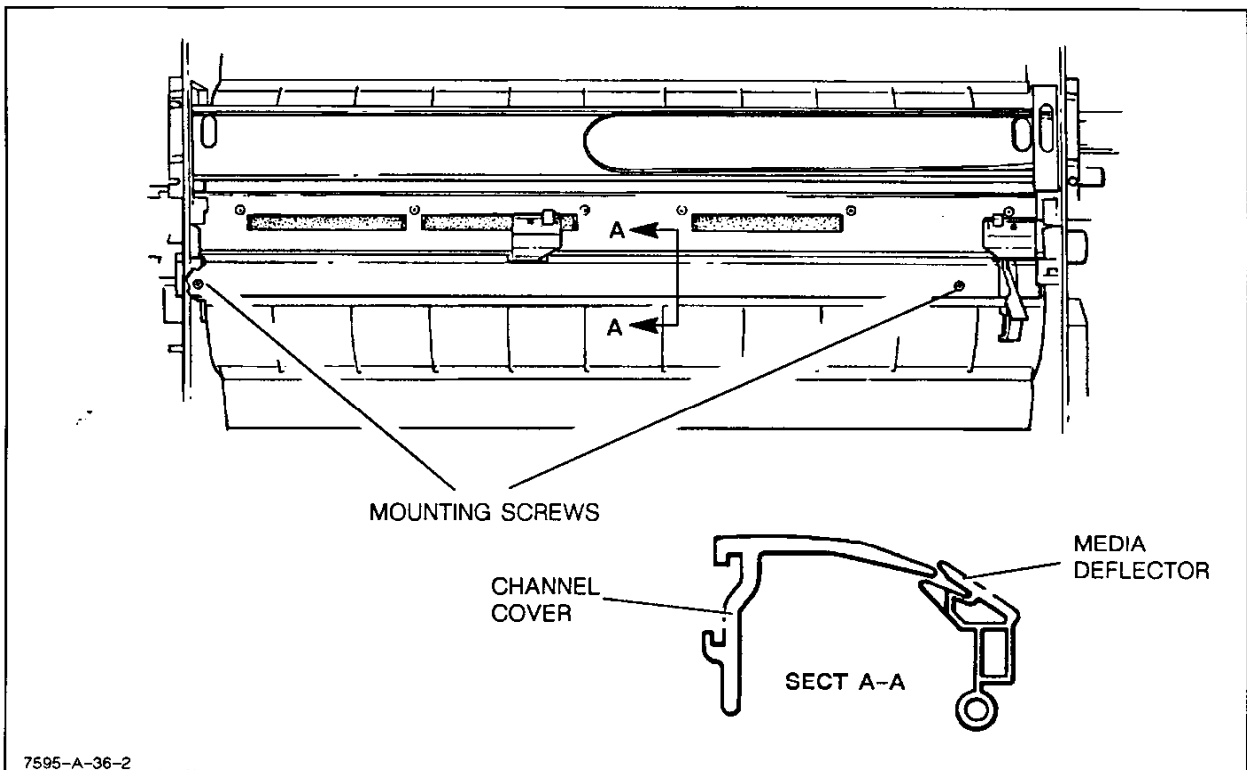
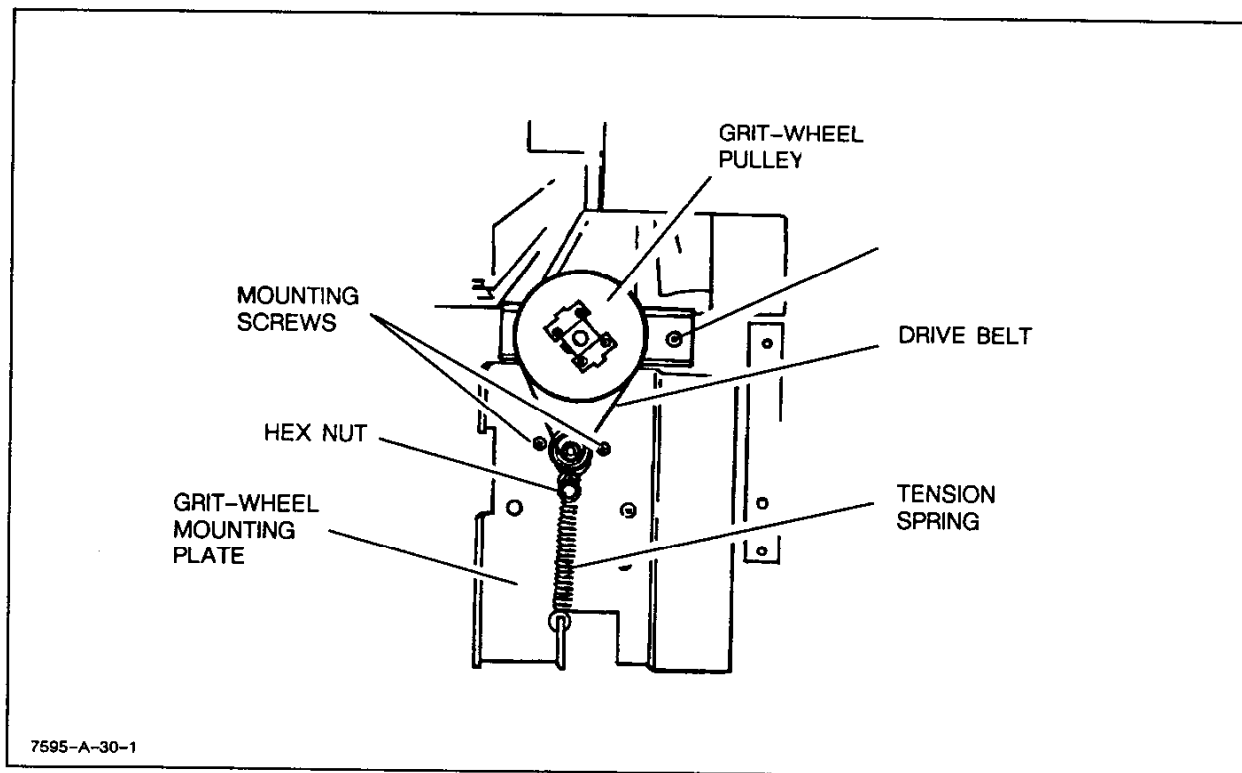

Figure 6-31. Pinch Wheel Channel Cover Removal
Figure 6-34. Grit Wheel Drive Assembly
- a. Turn the plotter line switch to OFF (O) and disconnect the ac power cord.
- c. Remove the two pinch wheel channel cover mounting screws (Torx #10) and remove the cover. See Figure 6-31.
- f. Install the pinch wheel channel cover. Slide the adjustable pinch wheel to the right, compressing the media deflector. Place the channel cover between the upper and lower tabs of each section of the media deflector. See Figure 6-31.
- d. Remove the grit wheel drive belt tensioning spring. See Figure 6-34.